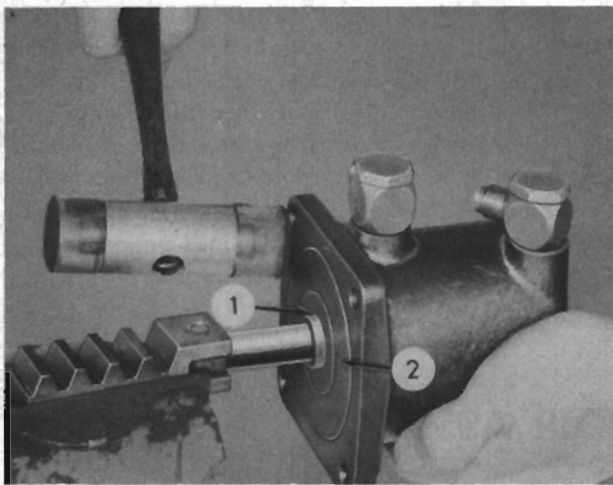
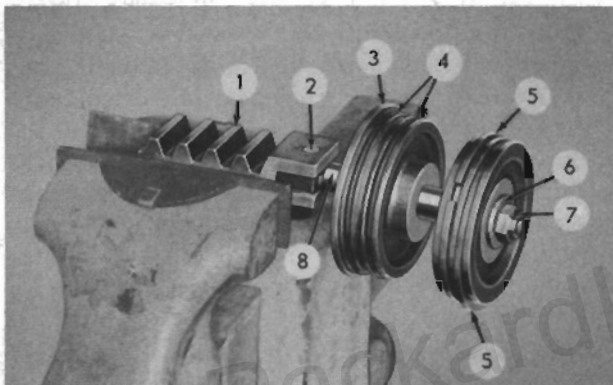

FIG. 78
FIG. 79
adapter as shown in Fig. 78. To remove the piston from the shaft, remove the retaining nut (7, Fig. 79) and thrust washer (6). Slip the piston off the shaft and remove the inner thrust washer. To remove the piston rings, use a standard 3" (76.2 mm.) piston ring expander and remove the rings. Slip the adapter (3) off the shaft and remove the stop plate. Using a pointed tool, remove the large O-ring seals (4) and discard.